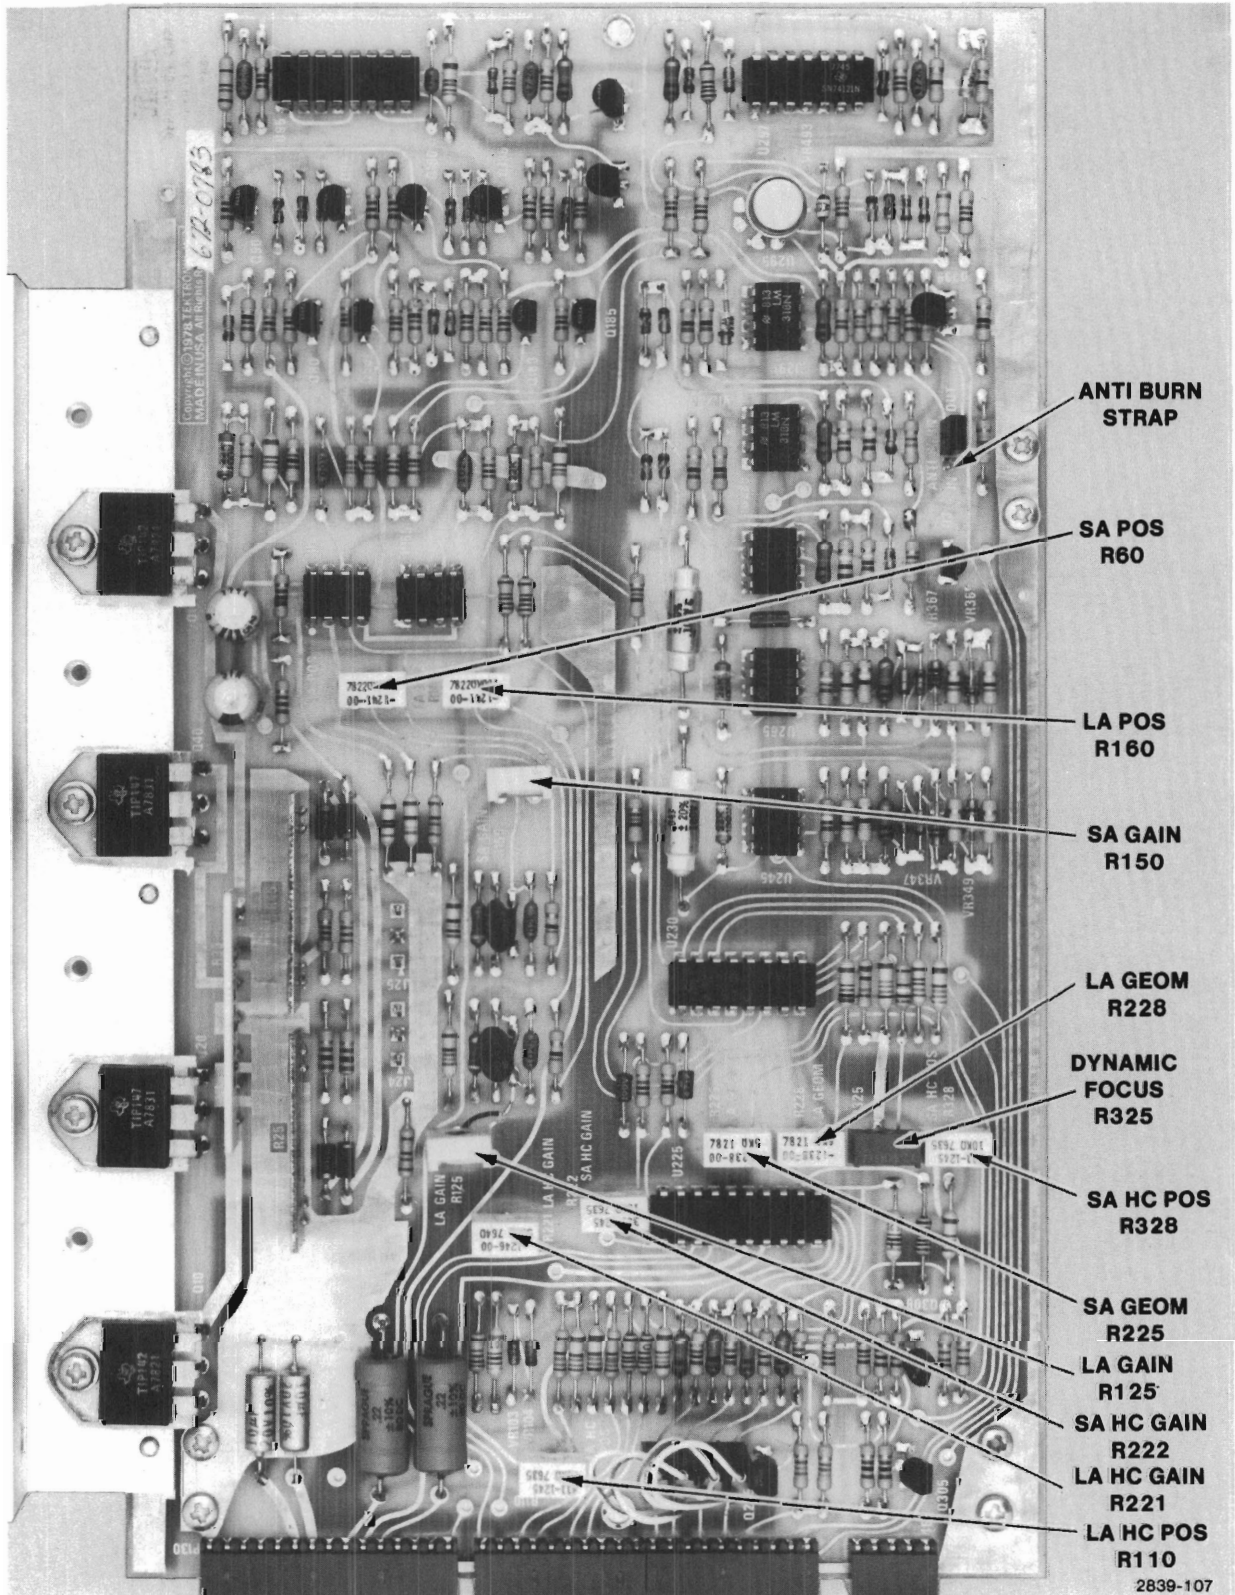

Figure 5-7. Deflection Amplifier Board Adjustment Points.
13. Set the ANTI-BURN jumper to the IN (lower) position on the Deflection board (Figure 5-7).